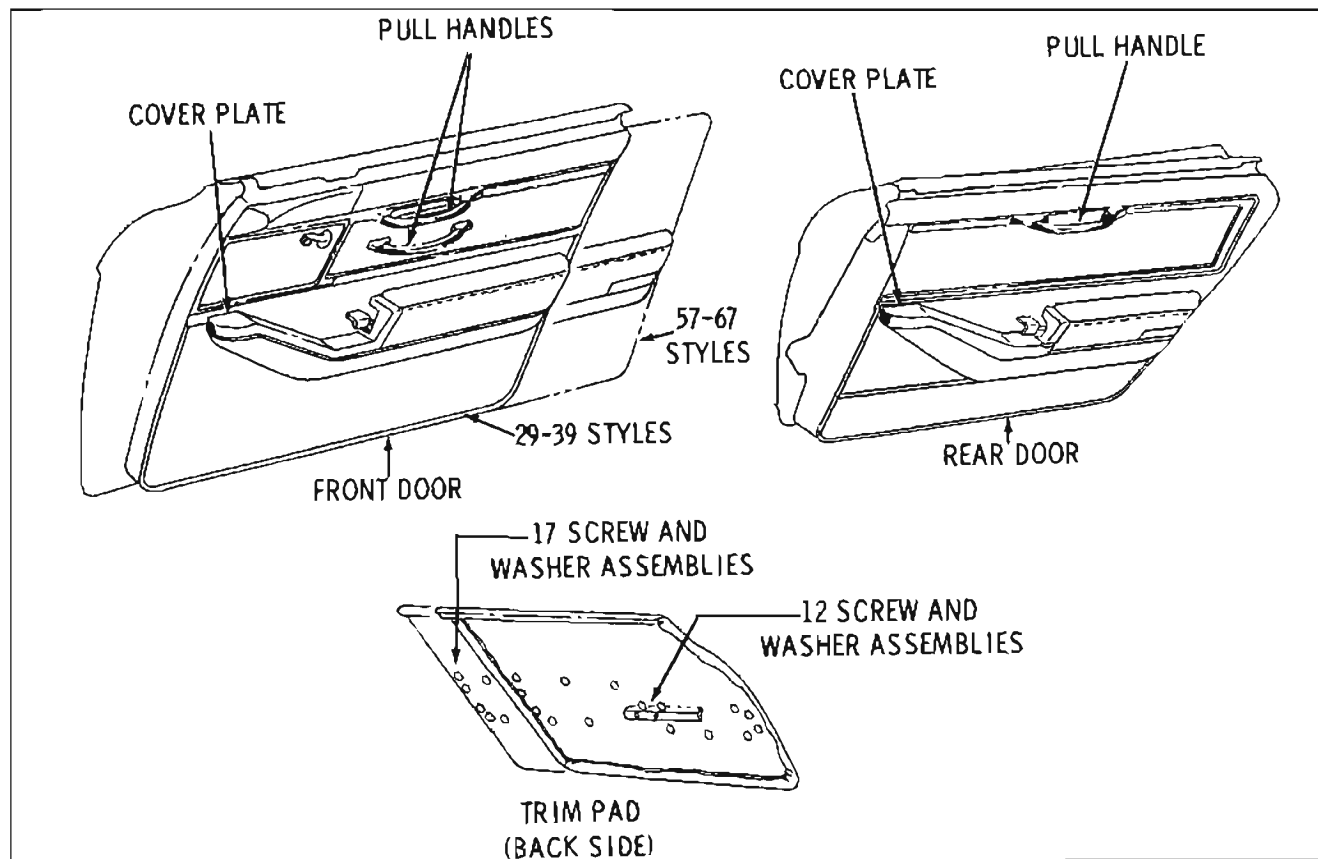

Fig. 16-30 Arm Rest Assemblies
- Remove arm rest screw and washer assemblies and remove arm rest from door trim pad. (Fig. 16-30)